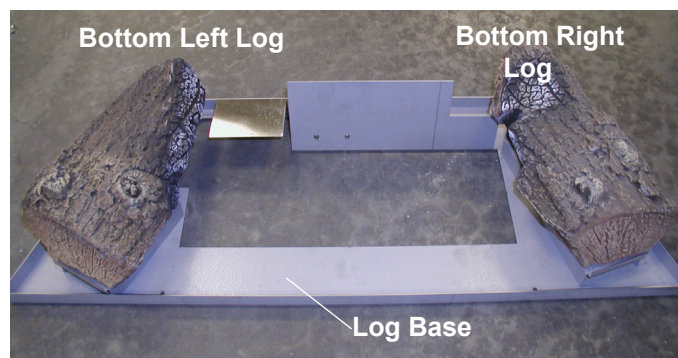

Figure 34a. Bottom left & right log placements.
- Step 2. Place the bottom left and right logs as shown above in *figure 34a*.